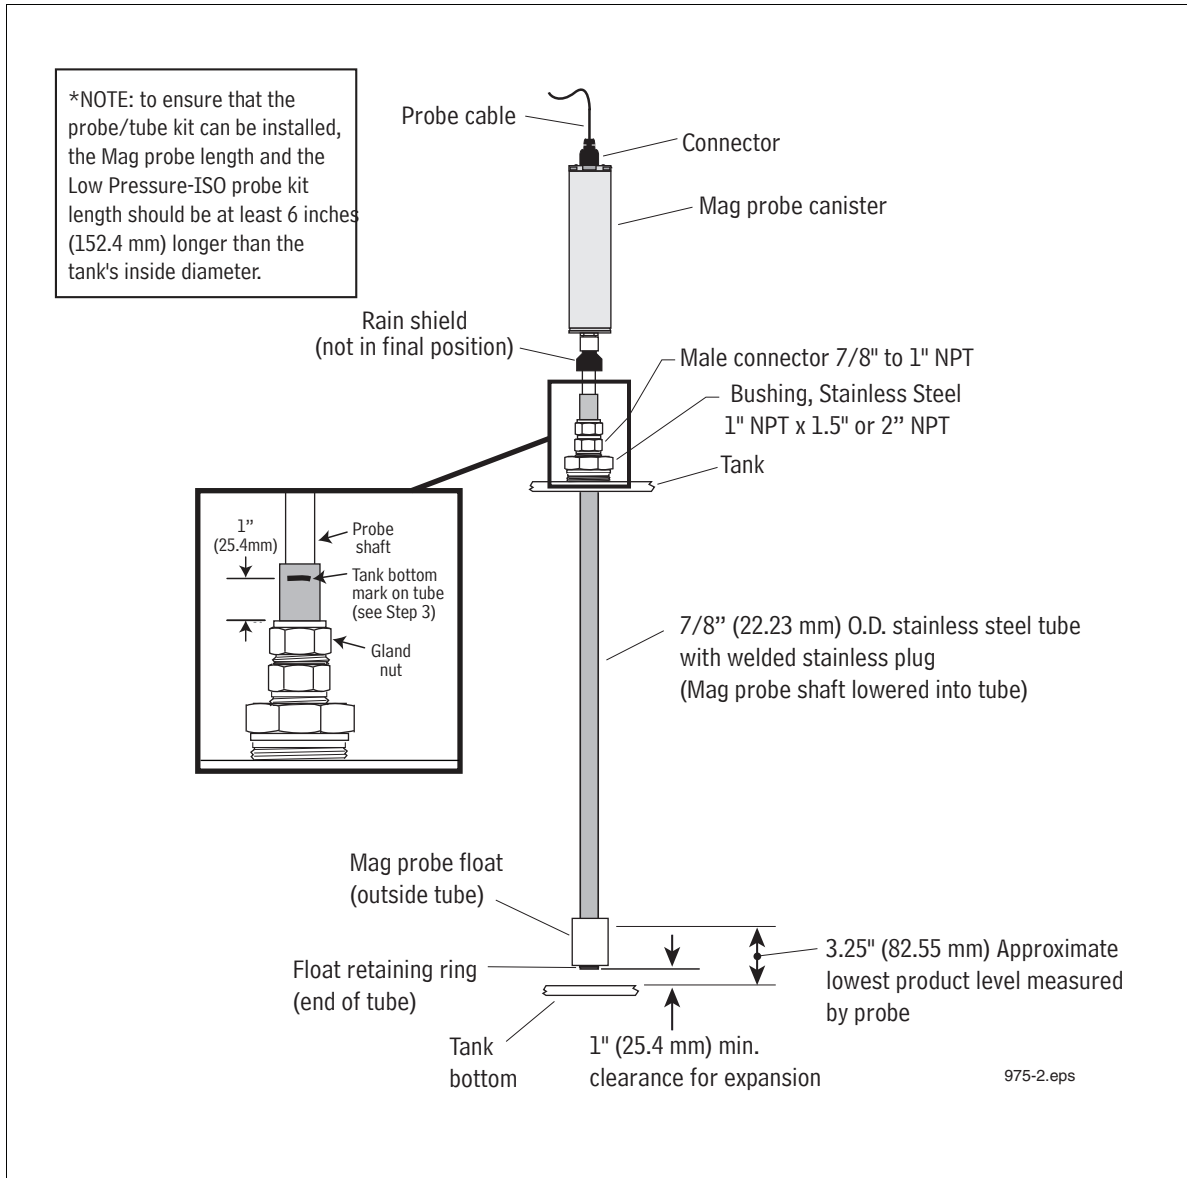

Figure 2. Media Isolated Mag Plus probe installation example
| Figure 2. | Media Isolated Mag Plus probe installation example | 5 |
1. With the float against the retaining ring, carefully lift the open end of the tube up and lower the assembly, float end first, into the tank until the tube rests on the bottom of the tank (Figure 2). Carefully slide the stainless steel reducing bushing, large end first, down over the tube until it rests against the tank opening. Apply UL classified sealant suitable for use with the product in the tank to the outside bushing threads that will be screwed into the tank fitting. Screw the bushing into the tank fitting. Tighten the bushing as required to ensure a proper seal.
3. Push the tube down until it rests on the tank's bottom. Using a felt marker, make a mark on the tube at the top of the gland nut. Raise the tube until the mark is 1-inch (25.4 mm) above the nut, then hand tighten the gland nut until the tube is held in place (this distance is necessary for expansion and contraction of the tank). Tighten the gland nut one and one quarter full turns beyond hand tight to crimp the ferrules to the tube and create the proper seal. Note that with the bottom clearance set at 1 inch (25.4 mm), the lowest level the probe can measure in the tank is approximately 3.25 inches (82.55 mm) (see Figure 2).